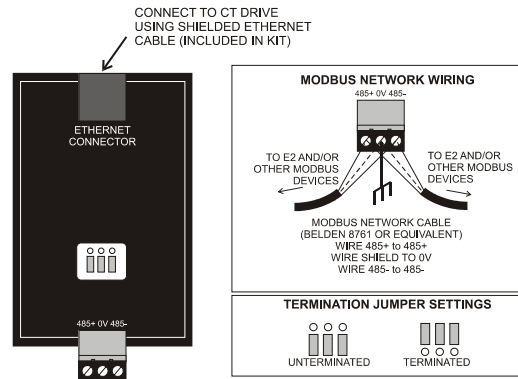

Figure 3 - CT Drive Interface Wiring and Termination Settings
2. Connect the MODBUS network cable to the RS485 network connector on the CT Drive Interface. Wire all 485+ terminals on the E2 and CT Drive Interfaces to the same wire color, and wire all 485- terminals to the other wire color. All bare shield wires should be connected to the 0V terminals. The 0V terminal must also be connected to earth ground with a 14AWG wire no longer than 6 inches. You may use the earth ground connection on the motor drive. Refer to *Figure 3*.
3. Terminate the two devices at the endpoints of the MODBUS daisy chain. For the E2, the termination jumpers will be next to the COM port connector. For the VSDs, use the termination jumpers on the CT Drive Interface. Set the jumpers of the end devices to the TERMINATED positions and all other devices to the UNTERMINATED position. Refer to *Figure 3*.